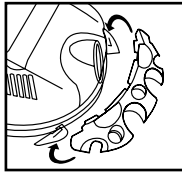

**FIGURE 9**
9. Apply pressure to front of hose holder to snap into place. **FIGURE 9.**